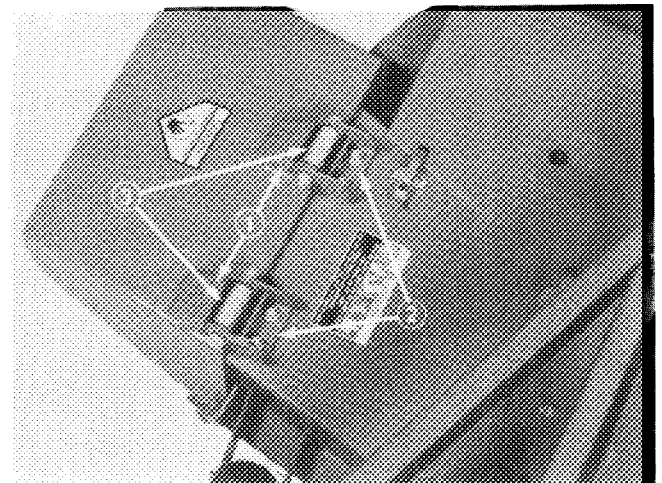

Figure 36
2. Remove two capscrews, locknuts, and springs securing deflector mounts to pivot brackets (Fig. 36).
3. To remove the pivot brackets, remove carriage bolts and locknuts (Fig. 36).